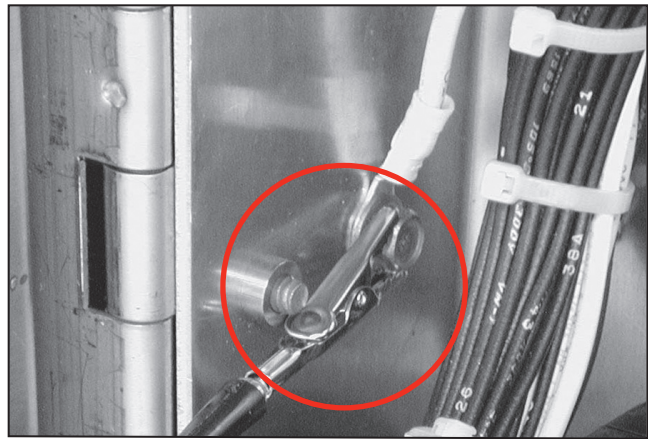

Figure 5. Attach the alligator clip.
STEP 4. Attach the alligator clip on the shorter of the two wire leads of the ground cord assembly to the ground stud on the communication and control unit enclosure. See Figure 5.